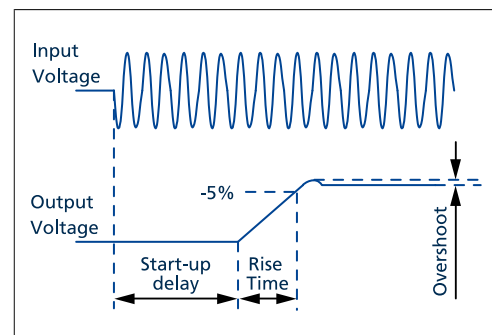

Fig. 3-2: Turn-on behavior, definitions
- A: Turn-on delay according to Fig. 3-2
- B: Rise time according to Fig. 3-2